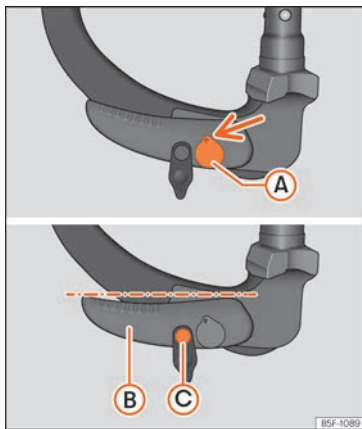

Fig. 254 Reserve position: position of the lever and the release bolt.
- Key **(A)** >>> **Fig. 254** is in the released position (the part of the key with the holes is facing upwards).
- Lever **(B)** >>> **Fig. 254** is in the bottom position.
- The release bolt **(C)** >>> **Fig. 254** can be moved.